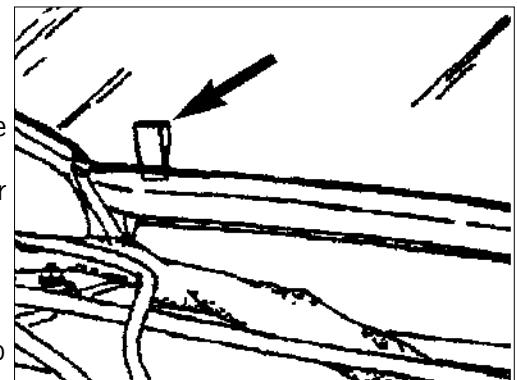

Figure 19
- If necessary, provide clearance for the metal frame to the glass using a plastic wedge (Figure 19 arrow). **Be very careful** not to damage the rear window, primer border or sealing profile. A gap of 2.0 mm is required.
- Carefully press the plastic wedge between the inner window frame and the rear glass as shown in figure 19. Check the entire window frame for adequate clearance to the rear window. If it is not possible to gain clearance using the plastic wedge (inside metal frame keeps returning to original position) use cable ties cut into small lengths to act as spacers between the rear glass and frame.